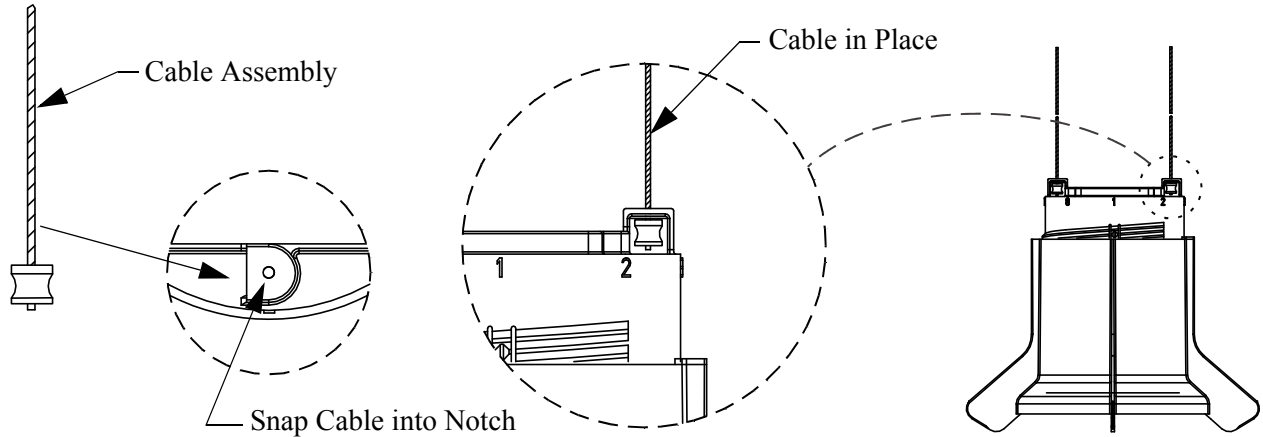

Figure 19. Cable Installation
7. Install two cables at each Feed Level Tube as shown, **See Figure 19.** The cable assembly should snap into the top of the Feed Level Cone and needs to be pulled up tight against the inside.